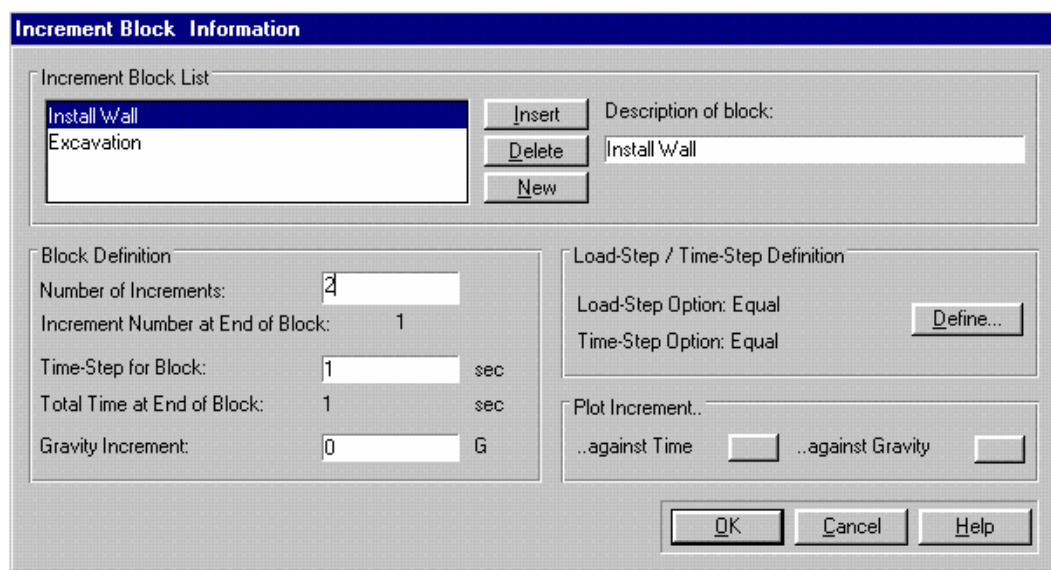

Figure 5-32 :Defining Increment Blocks
- Step 4** The Increment Block Information dialogue box should now look like Figure 5-32.